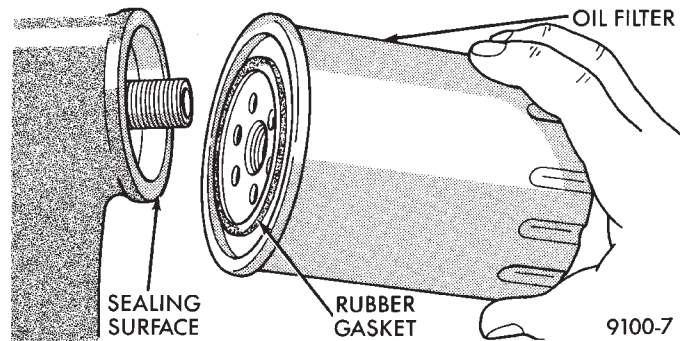

Fig. 10 Oil Filter Sealing Surface—Typical
(4) When filter separates from adapter nipple, tip gasket end upward to minimize oil spill. Remove filter from vehicle.
(5) With a wiping cloth, clean the gasket sealing surface (Fig. 10) of oil and grime.
(1) Lightly lubricate oil filter gasket with engine oil or chassis grease.
(2) Thread filter onto adapter nipple. When gasket makes contact with sealing surface, (Fig. 10) hand tighten filter one full turn, do not over tighten.
(3) Add oil, verify crankcase oil level and start engine. Inspect for oil leaks.